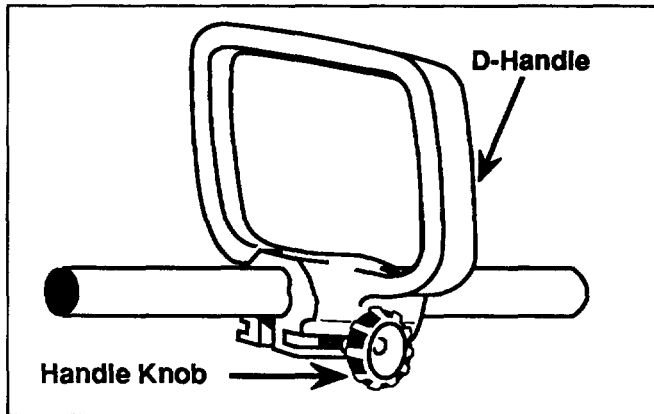

Fig. 1
1. Rotate the D-handle upright and adjust to a comfortable operating position. Tighten handle knob securely (Fig. 1).